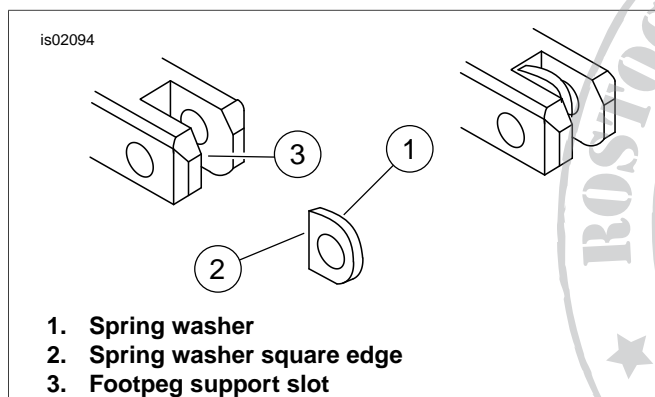

Figure 1. Footpeg Spring Washer Installation
See Figure 1. When performing the next step, verify that the spring washer is positioned inside of the footpeg support with the square edge (2) towards the inside of the support.
3. See Figure 1. Install the new footpegs in the same manner as the old footpegs were installed. Insert a spring washer (1) and the mount end of the footpeg inside the slots (3) of the footpeg supports.